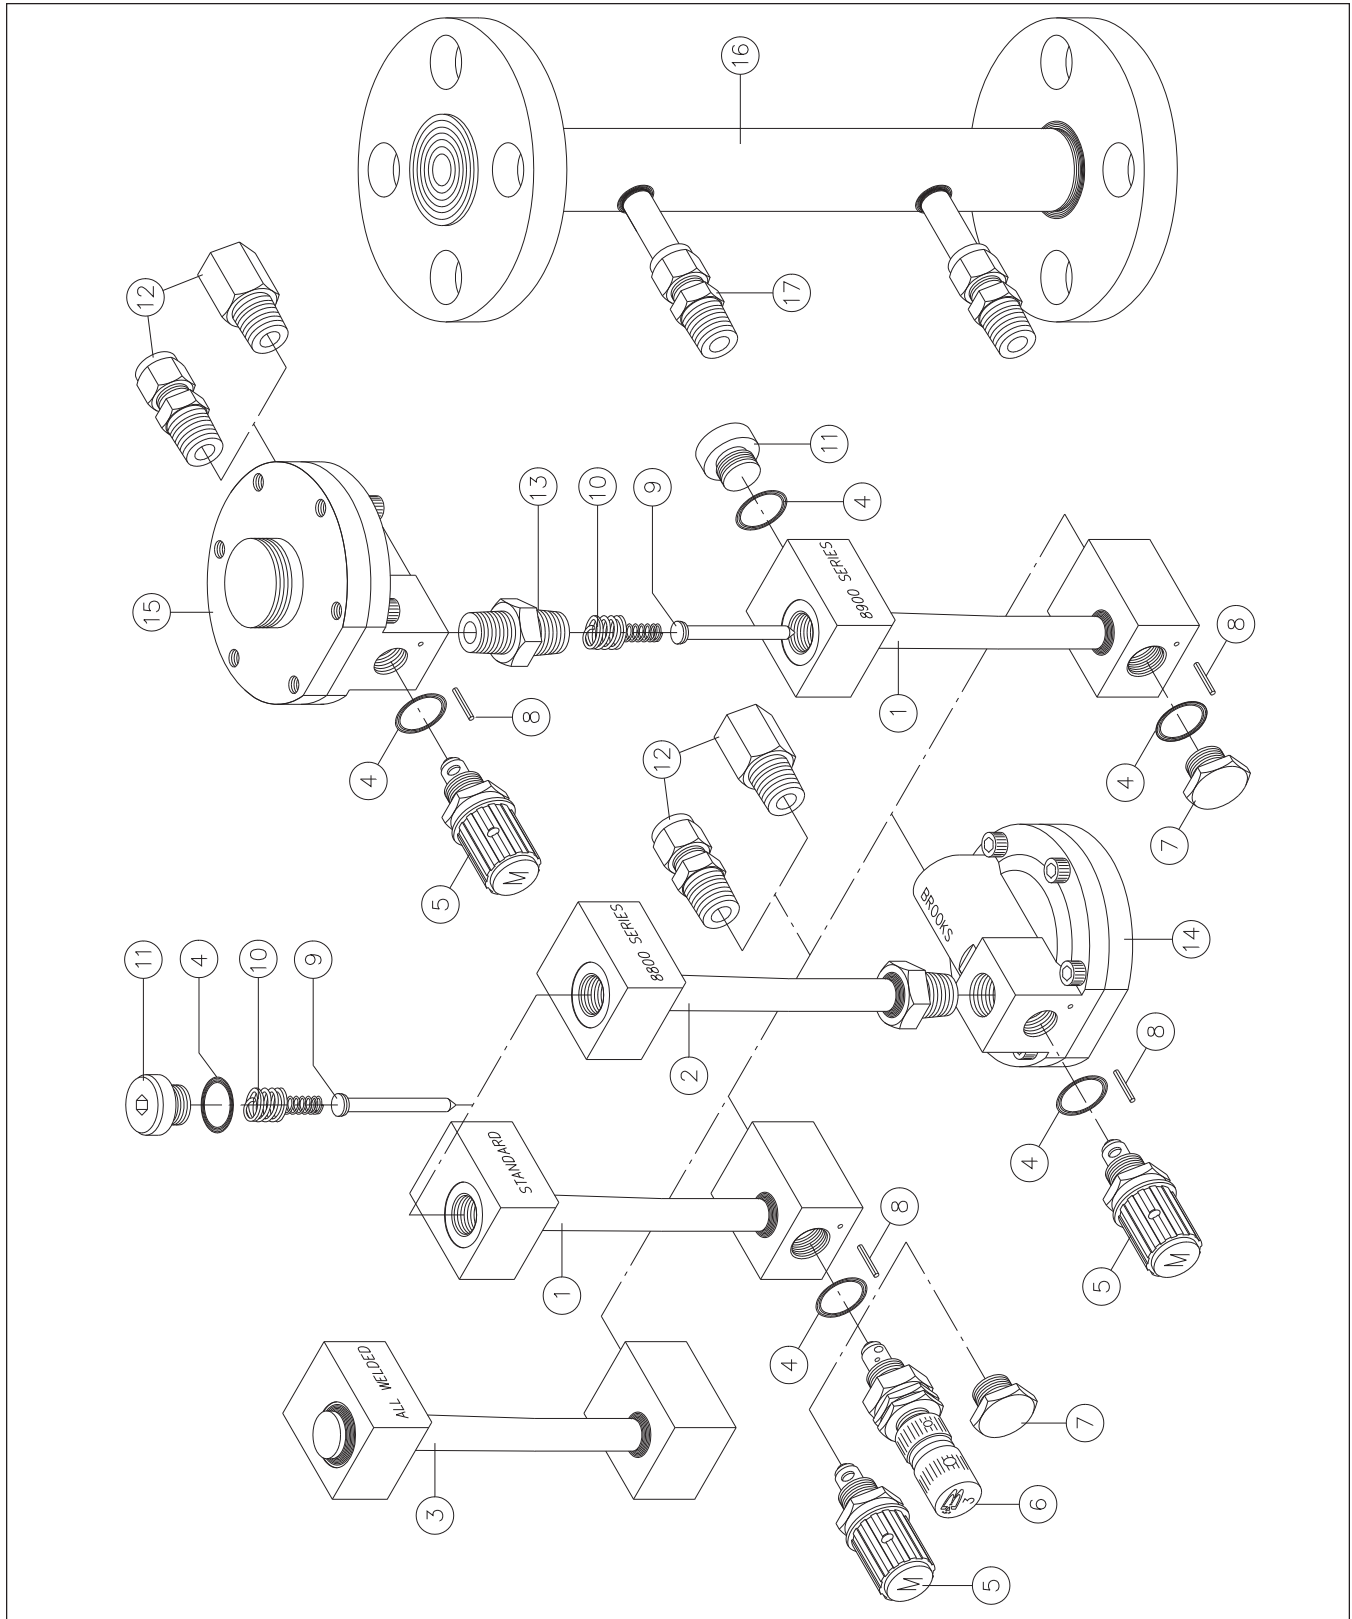

Figure 5-1 Model MT 3750 Exploded View
(Refer to Figure 5-1, and Tables 5-1, 5-2).
*Table 5-1 Model MT 3750 Recommended Spare Parts List (Refer to Figure 5-1)*